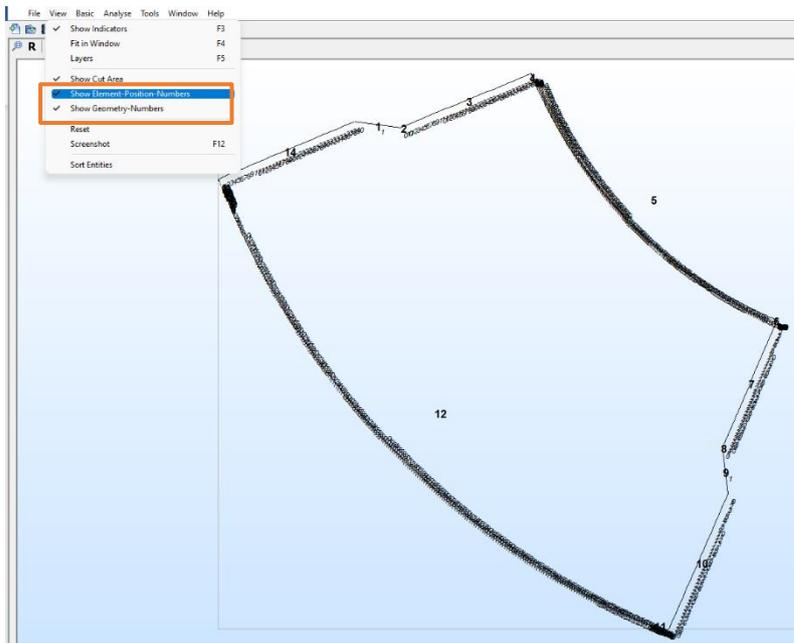

Figure 22
2. Press button **View** in the Main Menu. Activate [**Show Element-Position-Numbers**] and [**Show Geometry-Numbers**] (Figure 22).